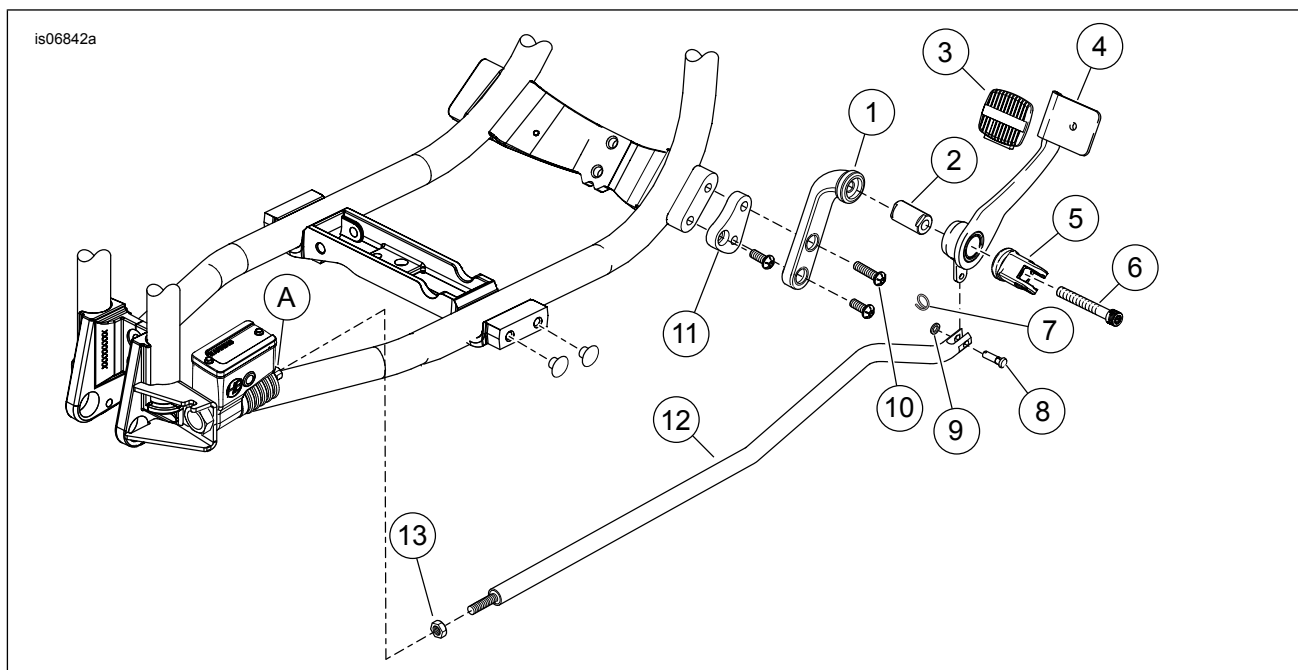

Figure 5. Service Parts: Reduced Reach Forward Controls Kit
- See Figure 5. Loosen the brake rod jam nut (13) at the rear brake master cylinder.